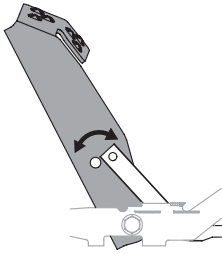

Fig. 37
3. Position the pedal to the optimal position based on operator preference (Fig. 37).